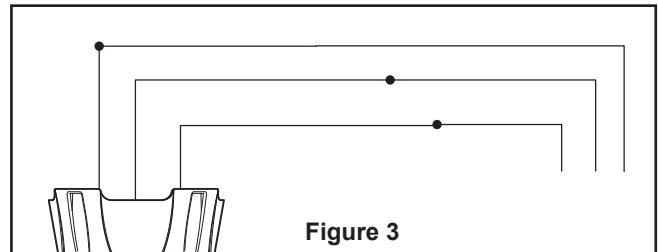

Figure 3
- ☐ 4. Connect the green grounding lead from the fan motor to the supply grounding conductor (this may be a bare wire or wire with green colored insulation). Securely connect wires with wire connectors supplied. (Figure 3)
- ☐ 8. Securely connect the white fan motor wire to the white supply (neutral) wire using wire connector supplied. Securely connect the black fan motor wire to the black supply wire using wire connector supplied. (Figure 3) After connections have been made, turn leads upward and carefully push leads into the outlet box, with the white and green leads on one side of the outlet box and the black lead on the other side of the outlet box. (Figure 5)
- ☐ 3. Using the rivets, rivet washers, and the rivet tool provided, install two rivets. The fl at head of the rivet must be on the inside of the belt (the side touching the pulley), while the rivet washer is placed on the outside of the belt. (Figures 3, 4, & 5)